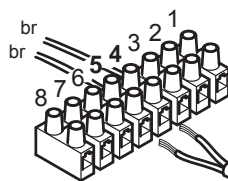

Fig. 19
9. Connect the two brown wires on the new harness to 4 & 5 on the M2 low voltage 8 way terminal strip (Fig. 19).
10. Connect the IFOS cable to 4 & 5 on the M2 low voltage 8 way terminal strip (Fig. 19). There is no polarity.